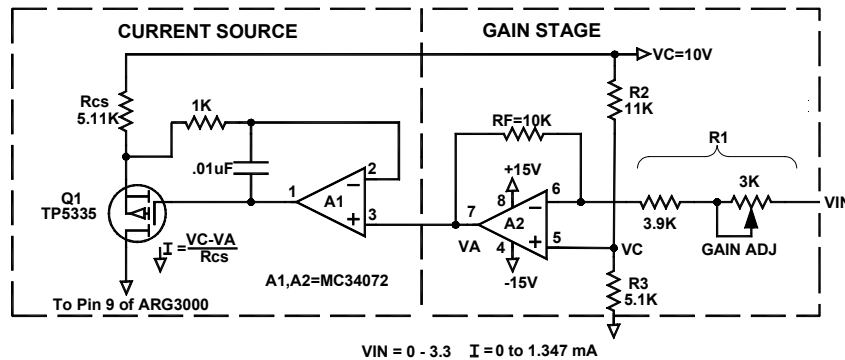

FIGURE 2. Voltage to current converter for ARG3000 dual output models
When the controlling voltage source is referenced to system ground, a voltage level shift is required. The circuit in Figure 2 can be used to provide the required current and voltage shift. The cur-
rent (I) required to be injected into Pin 9 (NI) is generated by the current source (A1, Q1, R_{CS}), while A2 is used to set the required gain. The drain voltage of Q1 (V_{DS}) must be higher than the maximum -V_{OUT} voltage. With I = 0 through the current source, the voltage at Pins 8 or 9 can be as high as 5.3V, therefore a voltage higher than 5.3V is required for Q2 to operate properly. +10V is selected in Figure 2.